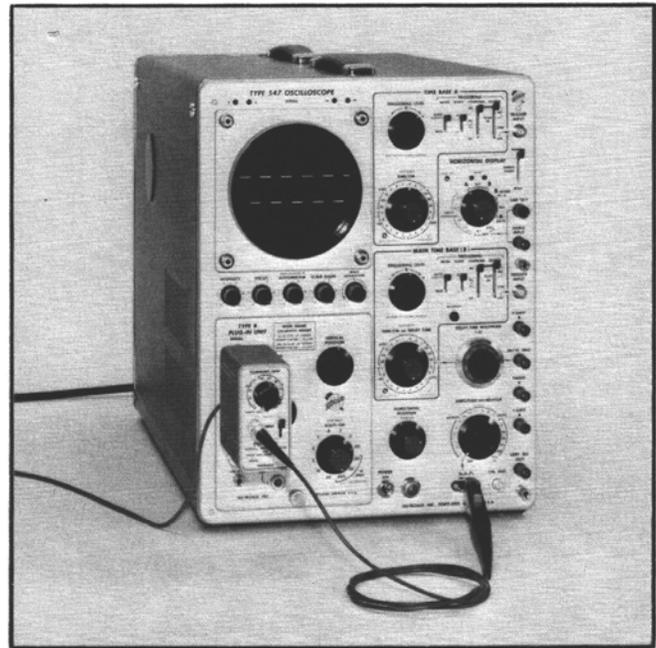

Fig. 2-1. Type Type 134 Current Probe Amplifier and current probe connected to an oscilloscope.
4. Slide the thumb-controlled portion of the probe back, place the probe around the oscilloscope calibrator current loop (or Calibrator adapter, Tektronix Part No. 013-0092-00), and push the slider forward into the locked position (see Fig. 2-1).